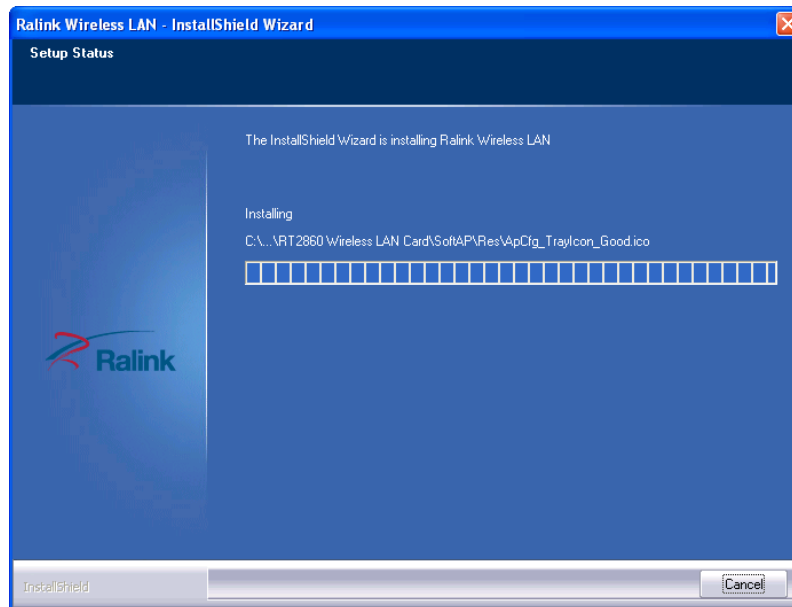

Figure 6-28: Setup Status
Step 11: The **Setup Status** screen in **Figure 6-28** appears and displays the progress of the installation.